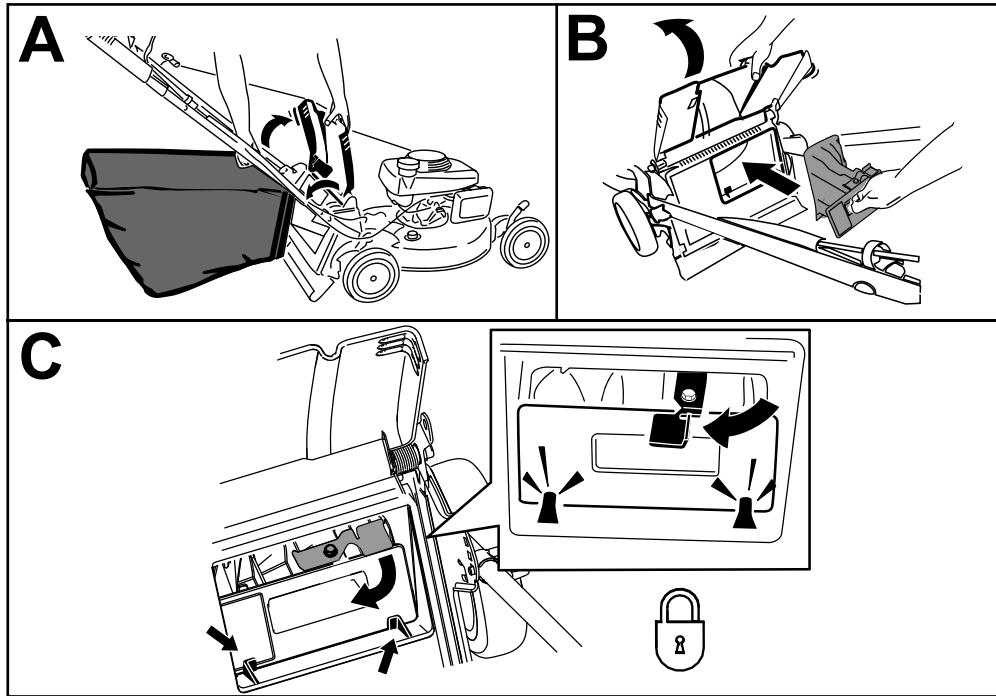

Figure 18
1. Raise and hold up the rear deflector and lift the grass bag up by the handle off the notches of the handle brackets (A of Figure 18).
2. Install the rear plug (B of Figure 18).
**Important:** Ensure that the rear plug is locked in place. To lock the plug, firmly push the plug in until it snaps into place behind the tabs, and rotate the lever on the plug to the left (C of Figure 18).